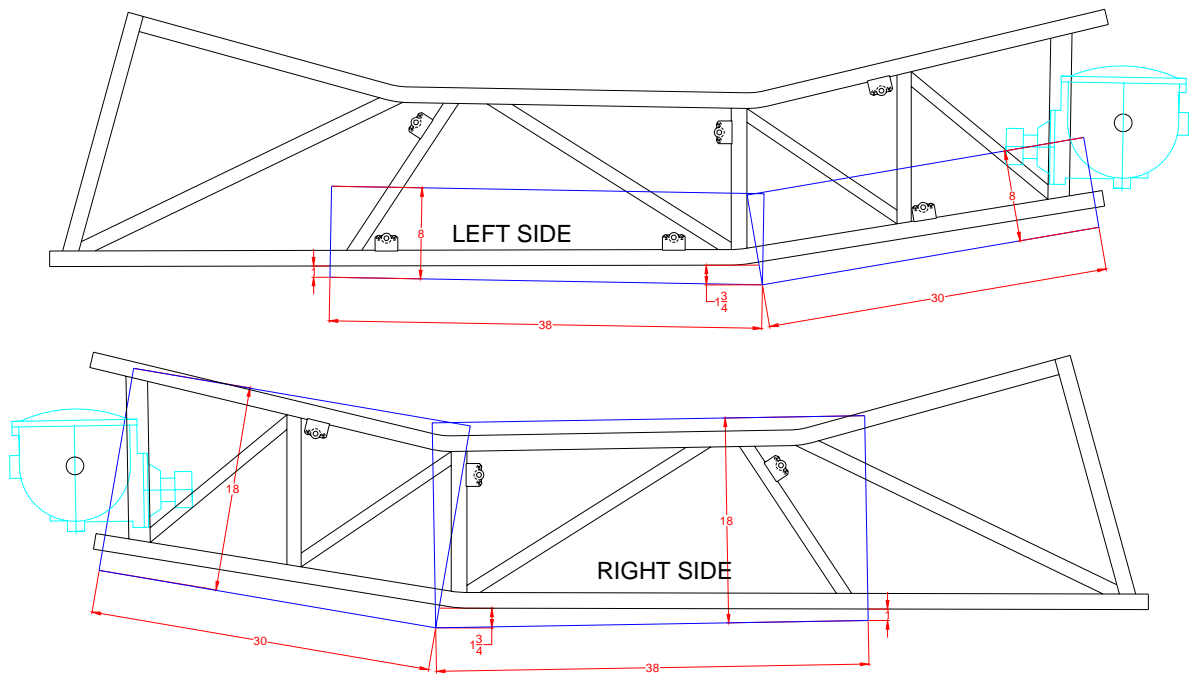

Figure 2
- 10) Below in Figure 2 is an approximation on how the un-trimmed pans will fit on the chassis.